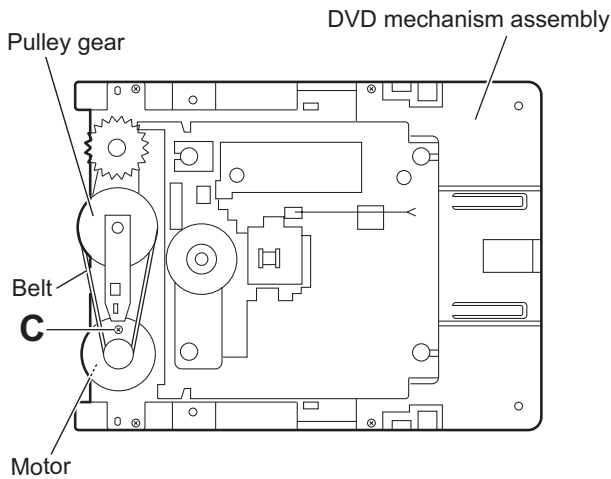

Fig.6
2.3.6 Removing the motor (See Fig.6.)